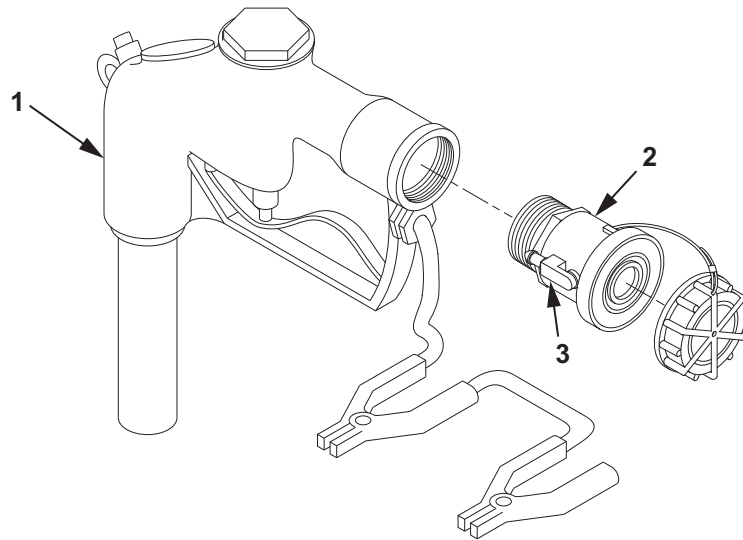

Figure 4. 1.5 In. Nozzle Assembly.
1. Apply teflon tape to threads of valved dry-break coupling assembly (Figure 4, Item 2).
2. Install valved dry-break coupling assembly (Figure 4, Item 2) into nozzle (Figure 4, Item 1).
3. Using an assistant to hold the nozzle (Figure 4, Item 1), use a strap wrench to tighten valved dry-break coupling assembly (Figure 4, Item 2).